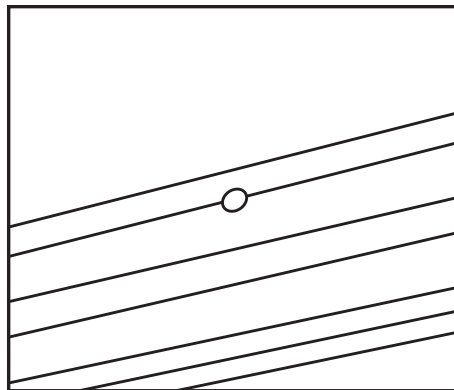

Fig.5
4. Use a 1/4" round file to remove any sharp burrs around the edges of the holes **(Fig.5)**.